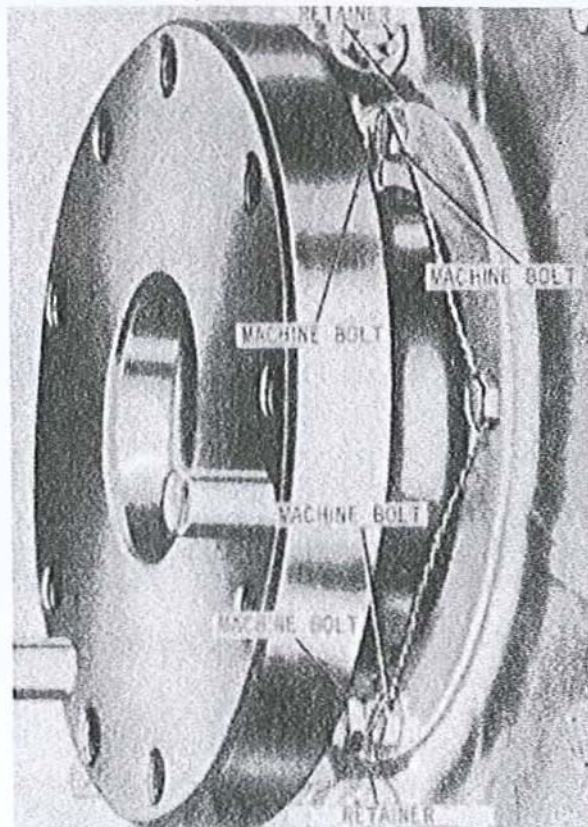

Figure 2-99. Removing or installing oil seal retainers.
(4) Cut locking wire and remove three bolts (fig. 2-99) securing oil seal retainer to oil seal cap. Cut locking wire and remove three bolts securing retainer to oil seal housing, and remove retainer.
(4) Install oil seal retainer over oil seal and secure to oil seal cap with three bolts (fig. 2-99) and install locking wire. Install the remaining oil seal retainer on the oil seal housing and secure with three bolts. Install locking wire.